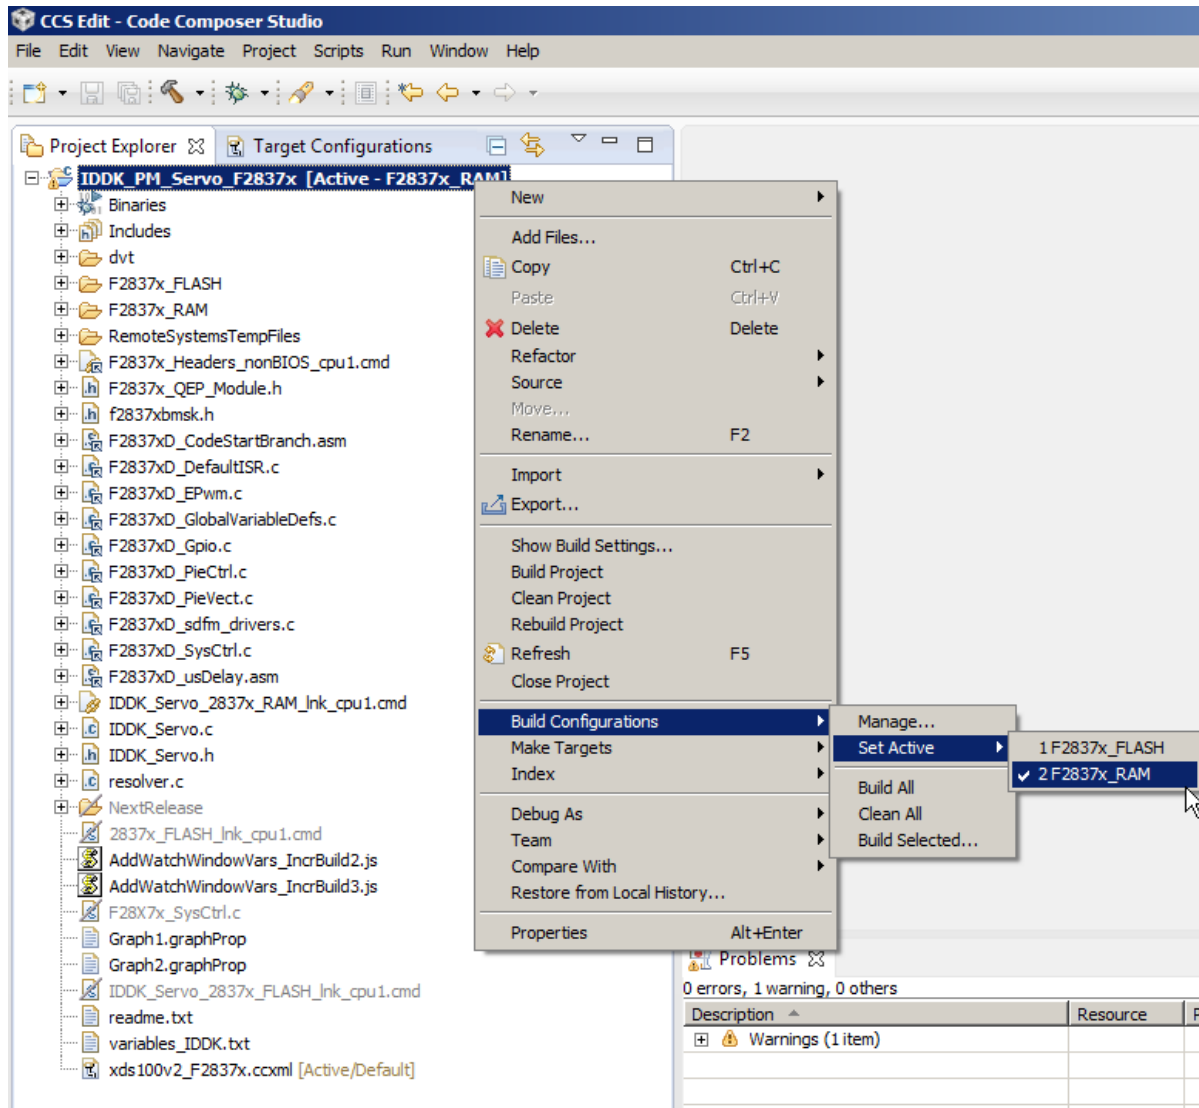

Figure 8 Selecting the F2837x_RAM configuration
12. The project can be configured to create code and run in either flash or RAM. You may select either of the two, however for lab experiments we will use RAM configuration most of the time and move to the FLASH configuration for production. As shown in Figure 8, right-click on an individual project and select Active Build Configuration-> F2837x_RAM configuration.